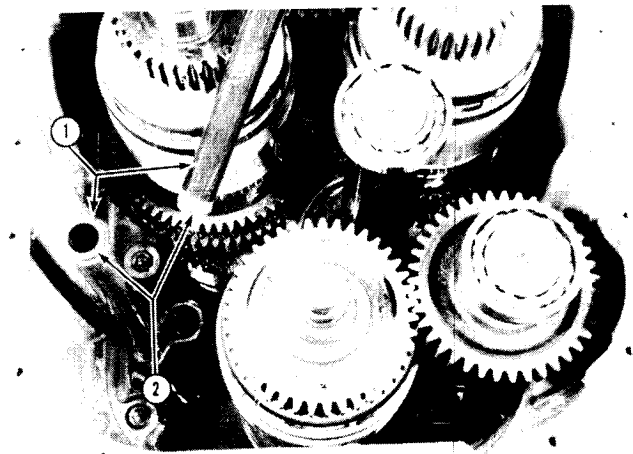

Figure 4-65
Install new "O"-rings (2, Fig. 4-65) on both ends of each oil transfer tube (1). Coat the "O"-rings with grease and install tubes in their housing bores.